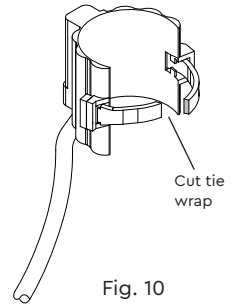

Fig. 10
- Remove the existing reed switch by cutting the securing tie wrap and pulling away from the body Fig. 10.